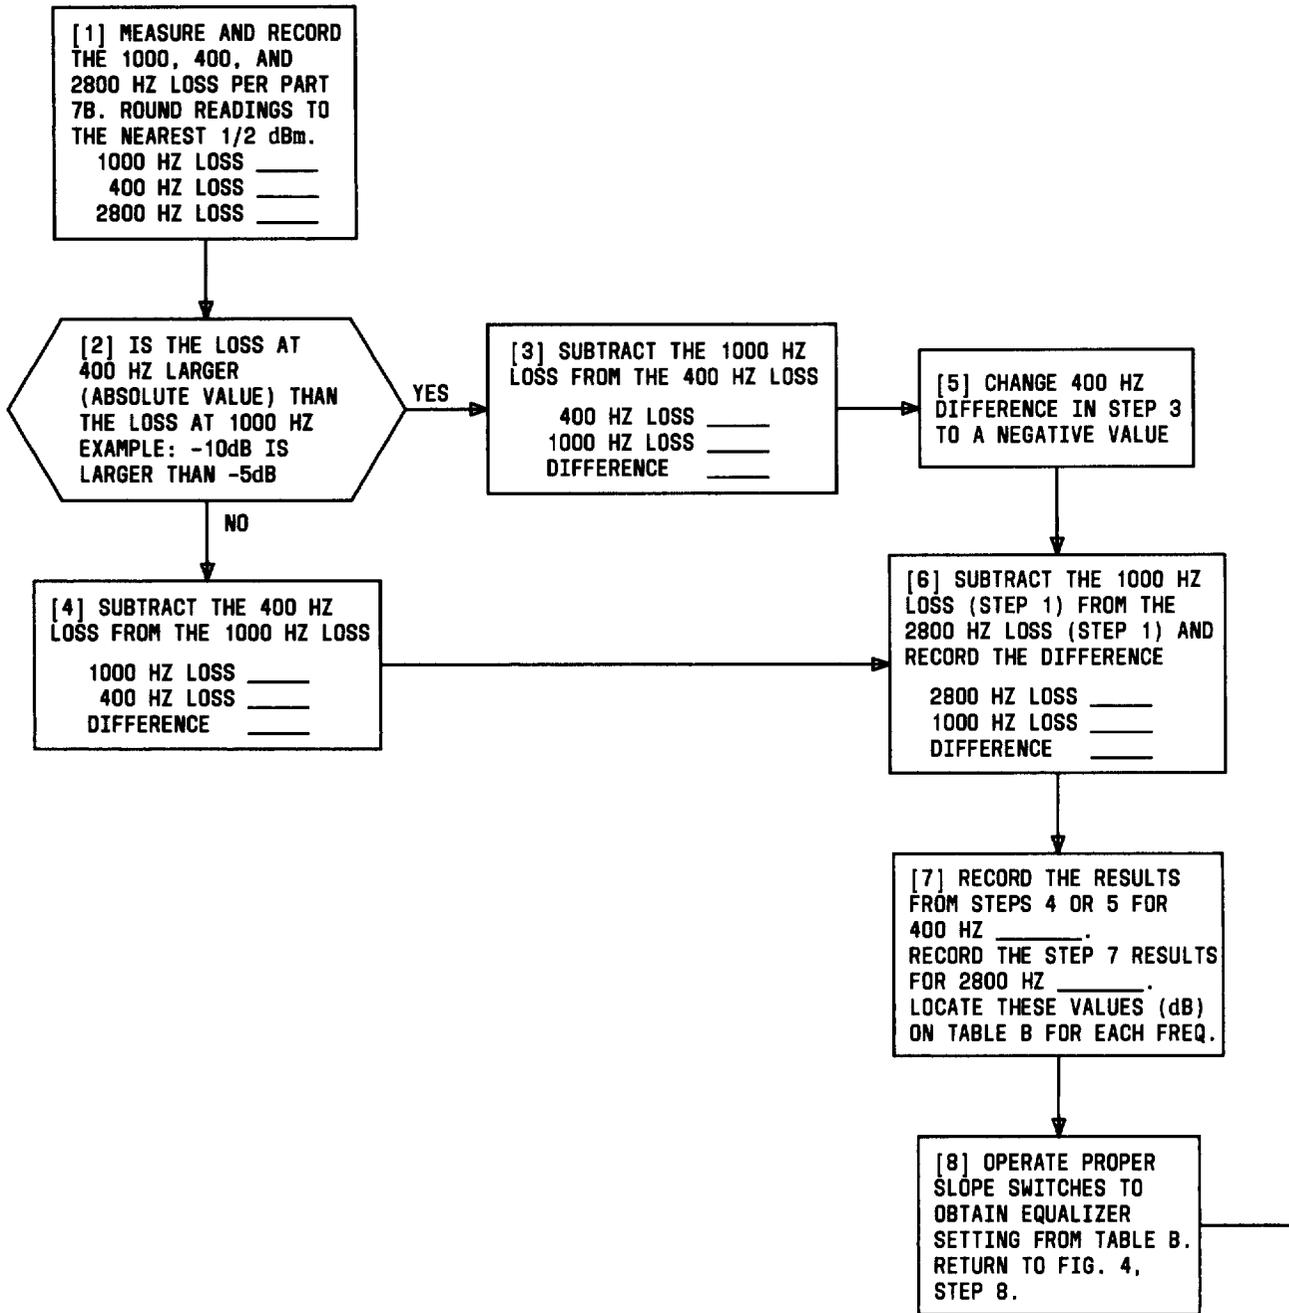

Fig. 8—Obtaining Equalizer Settings by Measurement
7.02 Cable loss information to calculate the equalizer settings is obtained from the frequency response measurement procedure. Figure 7 is a typical test configuration for obtaining the frequency response measurements and the procedure is given in Part 7B. Once the 400, 1000, and 2800 Hz cable loss has been determined, this information should be recorded in Step 1 of Fig. 8. The flowchart (Fig. 8) provides the procedure for determining the equalizer settings. An example calculation is also provided.
Once the level at 400, 1000, and 2800 Hz has been obtained from the following procedure, they should be recorded in Step 1 of Fig. 8.
- 9 For calculation of equalizer settings, record the received levels for 400, 1000, and 2800 Hz in Step 1 of Fig. 8.
7.06 The following is an example of using the procedures in Fig. 8 for obtaining equalizer settings by measurements: